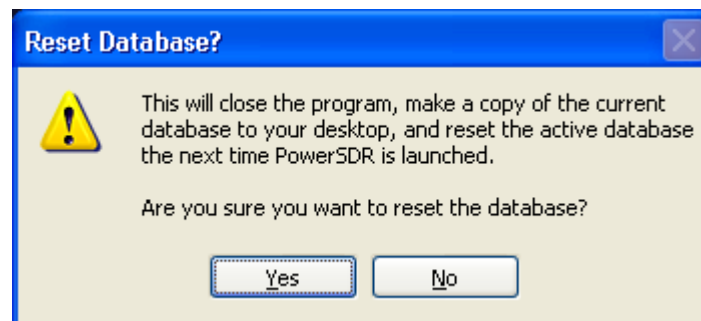

Figure 77: Reset Database Warning
- ❑ **Reset Database:** This displays the warning shown in Figure 77. Click **No** to avoid resetting the database. Click **Yes** to reset the database, which entails closing PowerSDR, copying the database file `database.xml` to your desktop and deleting it from its current location. The next time you start-up PowerSDR it will automatically create a new, clean database and read the EEPROM data from your FLEX-1500 to the database. The copy of the database on your desktop is an xml-file named `PowerSDR_database_[date]_[time].xml`.